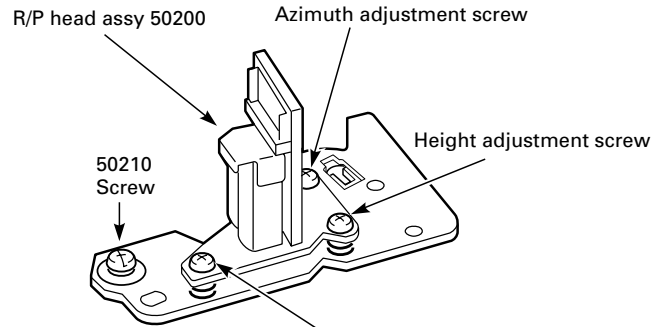

Fig. 9.5
**9.4 Adjusting the A/C Head (Fig. 9.5)**